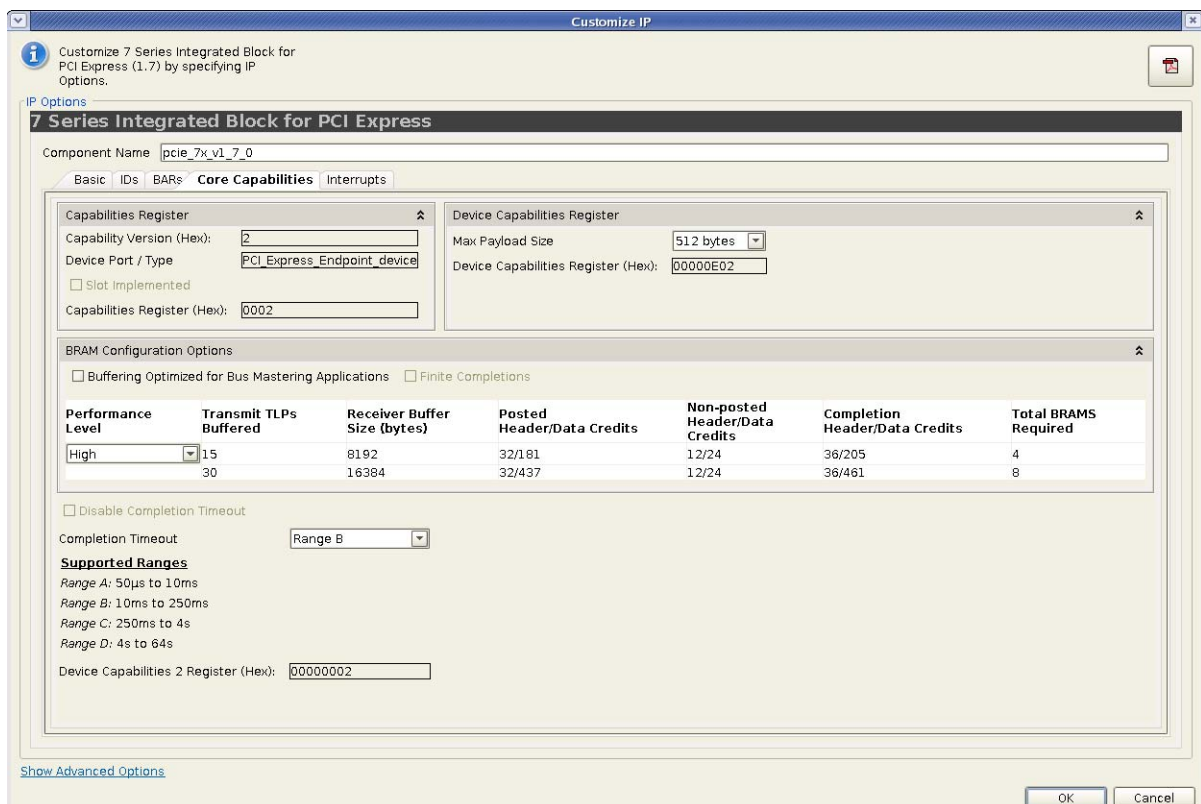

Figure 4-4: Core Capabilities Parameters
The Core Capabilities parameters shown in Figure 4-4 is used to customize the IP initial values, class code, and Cardbus CIS pointer information.
- **Attention Button Present:** Indicates the Attention Button is implemented. When set, indicates that an Attention Button for this slot is implemented on the chassis. This option is disabled when "Device\_Port\_Type" is not "Root Port of PCI Express Root Complex." This is enabled only when the Slot Implemented parameter in the Core Capabilities tab is selected (see Figure 4-4).
- **Attention Indicator Present:** Indicates the Attention Indicator is implemented. When set, indicates that an Attention Indicator for this slot is implemented on the chassis. This option is disabled when "Device\_Port\_Type" is not "Root Port of PCI Express Root Complex." This is enabled only when the Slot Implemented parameter in the Core Capabilities tab is selected (see Figure 4-4).
- **Power Controller Present:** Indicates the Power Controller is implemented. When set, indicates that a software programmable Power Controller is implemented for this slot. This option is disabled when "Device\_Port\_Type" is not "Root Port of PCI Express Root Complex." This is enabled only when the Slot Implemented parameter in the Core Capabilities tab is selected (see Figure 4-4).
- **Power Indicator Present:** Indicates the Power Indicator is implemented. When set, indicates that a Power Indicator is implemented on the chassis for this slot. This option is disabled when "Device\_Port\_Type" is not "Root Port of PCI Express Root Complex." This is enabled only when the Slot Implemented parameter in the Core Capabilities tab is selected (see Figure 4-4).
- **Hot-Plug Surprise:** When set, indicates that an adapter in this slot might be removed from the system without any prior notification. This option is disabled when "Device\_Port\_Type" is not "Root Port of PCI Express Root Complex." This is enabled only when the Slot Implemented parameter in the Core Capabilities tab is selected (see Figure 4-4).
- **Hot-Plug Capable:** When set, indicates that this slot is capable of supporting hot-plug operations. This option is disabled when "Device\_Port\_Type" is not "Root Port of PCI Express Root Complex." This is enabled only when the Slot Implemented parameter in the Core Capabilities tab is selected (see Figure 4-4).
- **MRL Sensor Present:** Indicates MRL Sensor implemented. When Set, indicates that an MRL (Manually operated Retention Latch) sensor is implemented for this slot, on the chassis. This option is disabled when "Device\_Port\_Type" is not "Root Port of PCI Express Root Complex." This is enabled only when the Slot Implemented parameter in the Core Capabilities tab is selected (see Figure 4-4).
- **Electromechanical Interlock Present:** When set, indicates that an Electromechanical Interlock is implemented on the chassis for this slot. This option is disabled when "Device\_Port\_Type" is not "Root Port of PCI Express Root Complex." This is enabled only when the Slot Implemented parameter in the Core Capabilities tab is selected (see Figure 4-4).
- **No Command Completed Support:** When set, indicates that the slot does not generate software notification when an issue command is completed by the Hot-Plug Controller. This option is disabled when "Device\_Port\_Type" is not "Root Port of PCI Express Root Complex." This is enabled only when the Slot Implemented parameter in the Core Capabilities tab is selected (see Figure 4-4).
- **Slot Power Limit Value:** Specifies the Upper Limit on power supplied to the slot, in combination with Slot Power Limit Scale value. This option is disabled when "Device\_Port\_Type" is not "Root Port of PCI Express Root Complex." This is enabled only when the Slot Implemented parameter in the Core Capabilities tab is selected (see Figure 4-4).